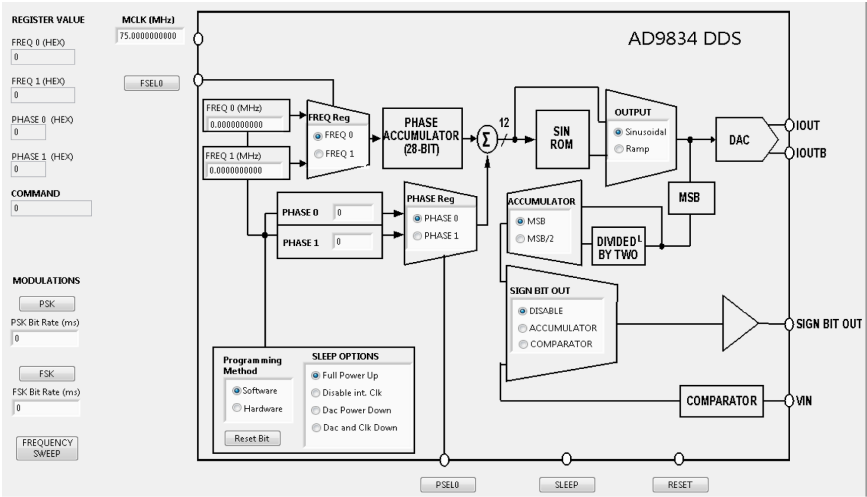

Figure 4. EVAL-CN0304-SDZ Evaluation Board Software
- 3. Ensure that all links are in their correct locations (see Table 1). The main window of the EVAL-CN0304-SDZ evaluation software then opens, as shown in Figure 4.